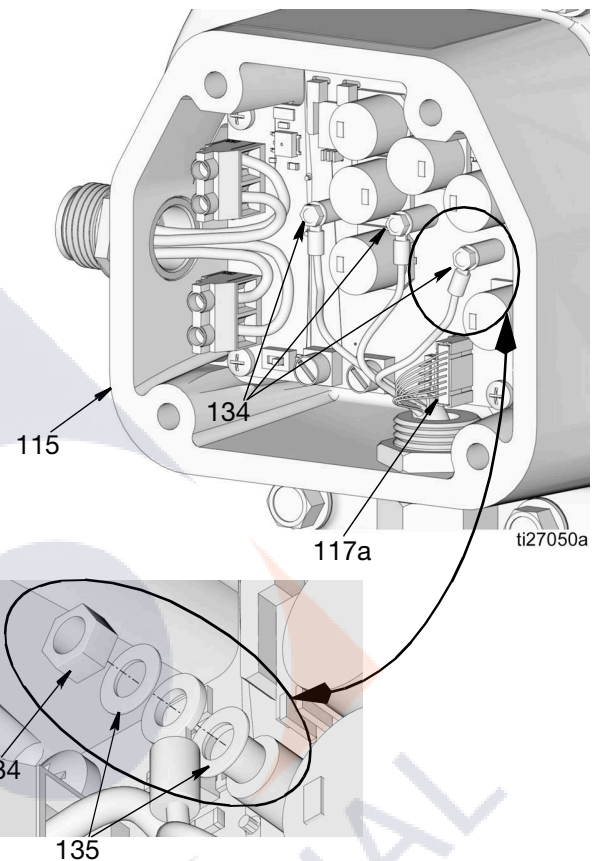

FIG. 61
Secure wires to terminals using washers and nuts (134 and 135) (FIG. 61). Torque to 8-10 in. lbs (0.9 - 1.1 N.m).
6. Connect sensor cable (117a) (FIG. 61).
7. Replace control board gasket (119) and cover (120) with screws (116) being careful not to pinch any wires. Tighten screws securely. Torque to 17-19 ft lbs (23 -25 N.m).
3. Match green, yellow and blue wires of motor to terminals of same color (written on the control board). Secure wires to terminals using washers (135) and nuts (134) (FIG. 61). Torque to 8 - 10 in. lbs (0.9 - 1.1 N.m).